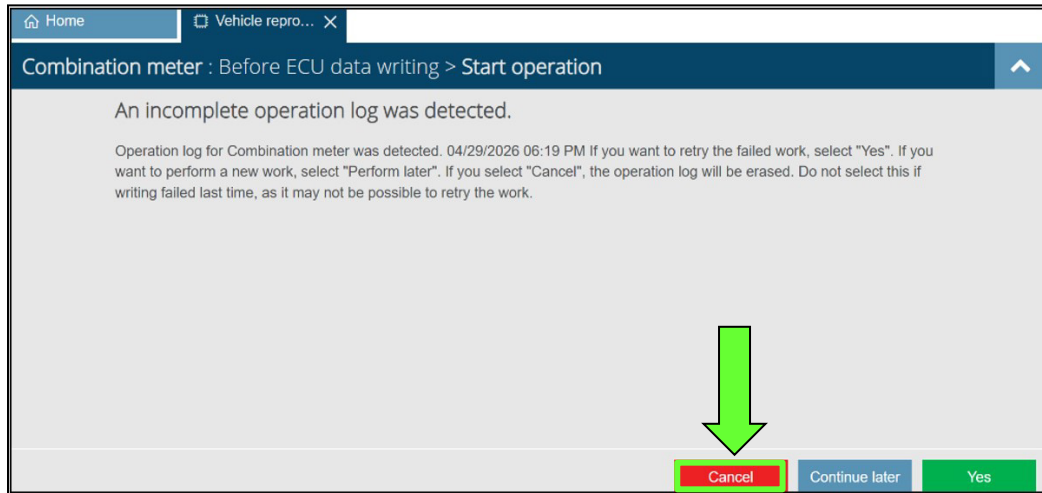

Figure 4
- i) When the screen in Figure 4 appears, select **Cancel**.